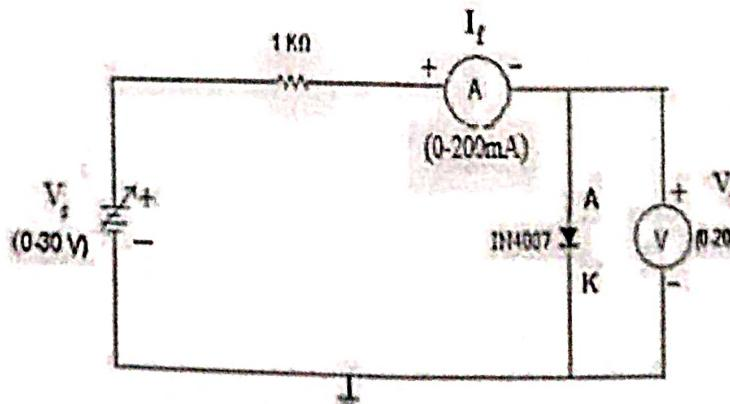

Fig. 4: Circuit diagram of Forward Bias diode.
1. Connect the circuit as shown in figure 4 using PN Junction diode